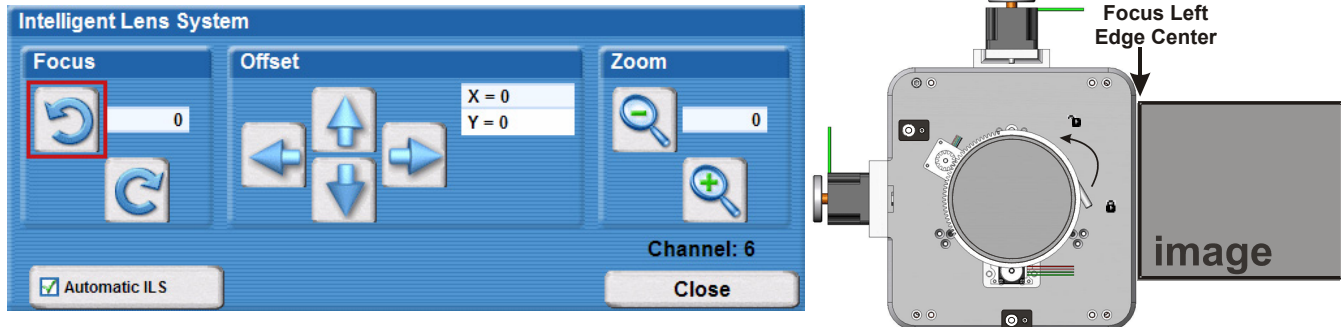

Figure 2-25 Adjust Focus
3. Adjust the **Focus** to retract the lens using the counter-clockwise button on the **ILS** screen (**Figure 2-25**). Watch the image at the left edge of the screen until it comes into focus. If the image appears well-focused on the left edge but not on the right, we need to determine if the right side focuses in front of or behind the screen. If the entire screen come into focus, skip to step 7.